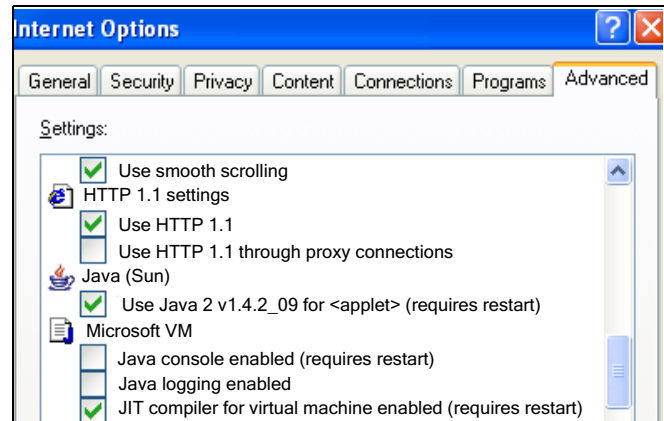

FIG. 31 Java Internet Options
2. The EasyKey software requires Sun Java to operate. Open your web browser options advanced tab and select Java (Sun) and deselect the Microsoft VM selection. See FIG. 31. If the Sun Java option is not available follow the **Software Operation** procedure and load the Sun Java program when the appropriate screen and link appear.